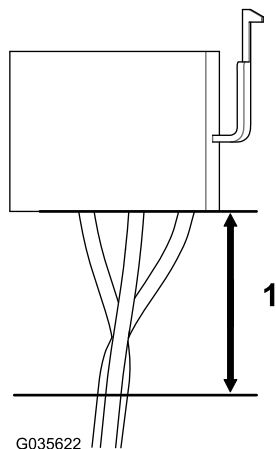

Figure 2
6. Cut the 3 wires within 2.5 cm (1 inch) of the connector for the left actuator switch and strip 1.0 to 1.3 cm (3/8 to 1/2 inch) of the wire (Figure 2).